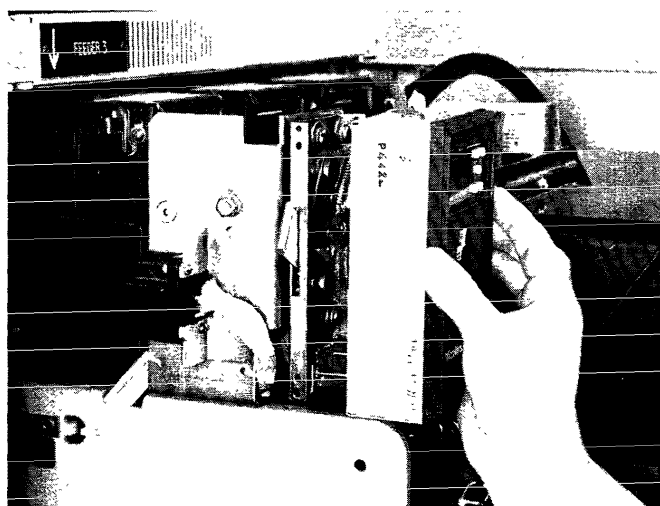

Figure 3. Installing the trip unit in the breaker.
6. Reinstall the trip unit by aligning the holes in the back of the trip unit with the guide pins on the mounting plate, as illustrated in Figure 3 Push firmly down on the trip unit until the **PROGRAMMER RELEASE LEVER** snaps back under the trip unit.